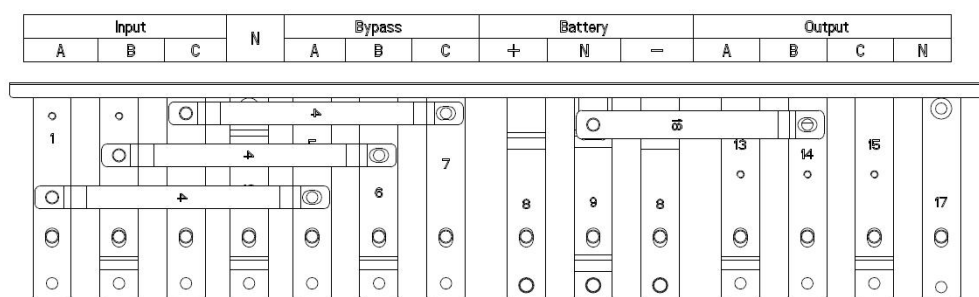

Figure 2-17 2-slot cabinet UPS connection terminals
- 2) Open the door of the cabinet (the front door for 2-slot and, 4-slot and 8-slot cabinet UPS; the back door for 6-slot, 10-slot and 12-slot cabinet UPS), remove the metal or plastic cover. The input and output terminal, battery terminal and protective earth terminal are shown in Figure 2-17 to Figure 2-21.